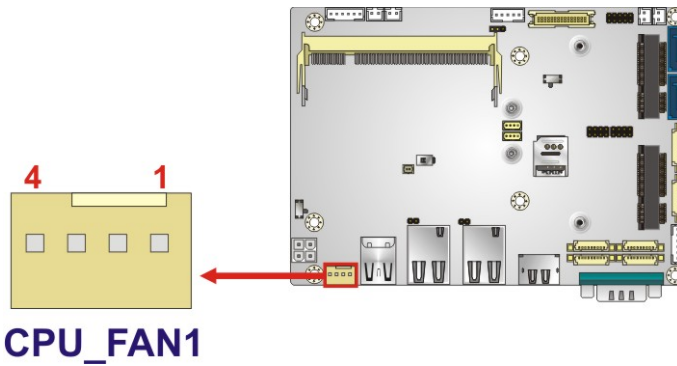

Figure 3-6: Fan Connector Location
- CN Location:** See **Figure 3-6**